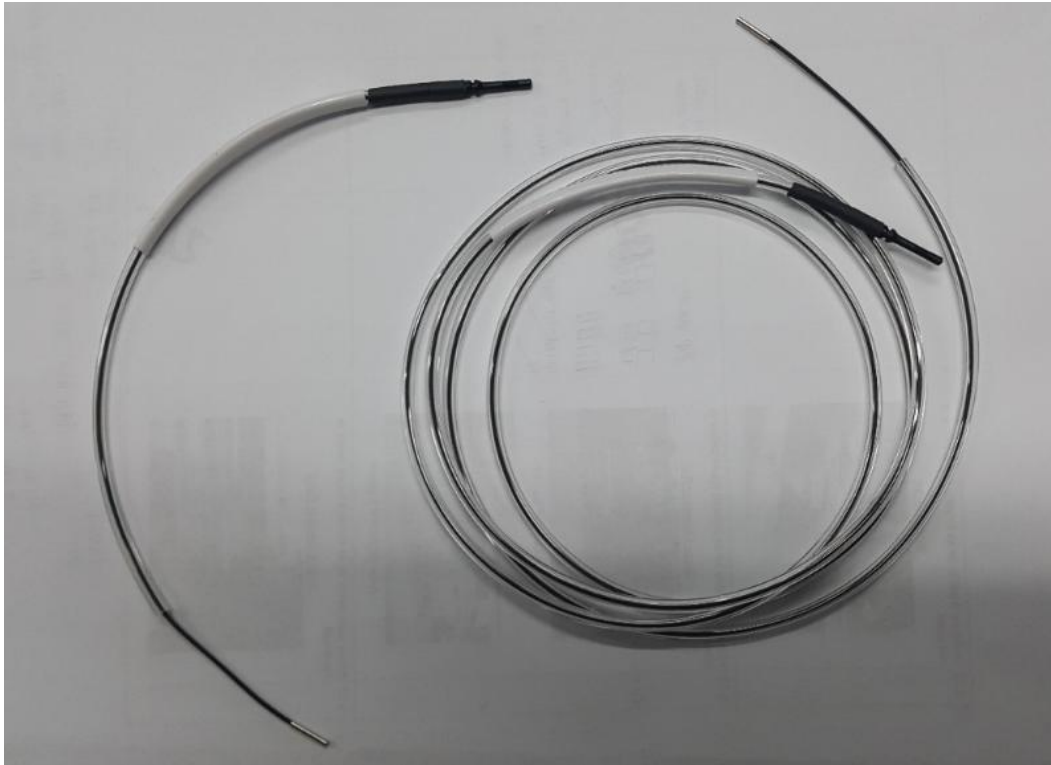

Figure 21 4XASP-A151 / 2000-0016 Left Slow PIP Cable
1. Install the new (4XASP-A151 / 2000-0016) S2EX Left Slow PIP Cable as shown below in Figure 21.